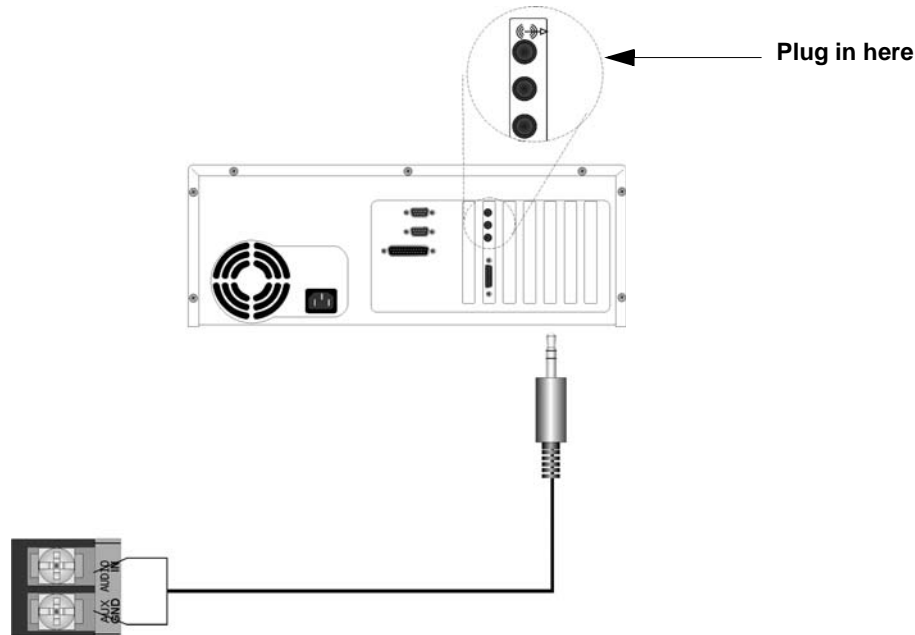

Figure 11-5 Aux Audio Connection for Recording
1. Wire a speaker cable with 1/8" mini plug to the Aux AUDIO GND and IN terminals. Refer to Figure 11-5.
2. Plug the mini plug into the Line Out/Headphone jack on a PC or laptop. See Figure 11-5.